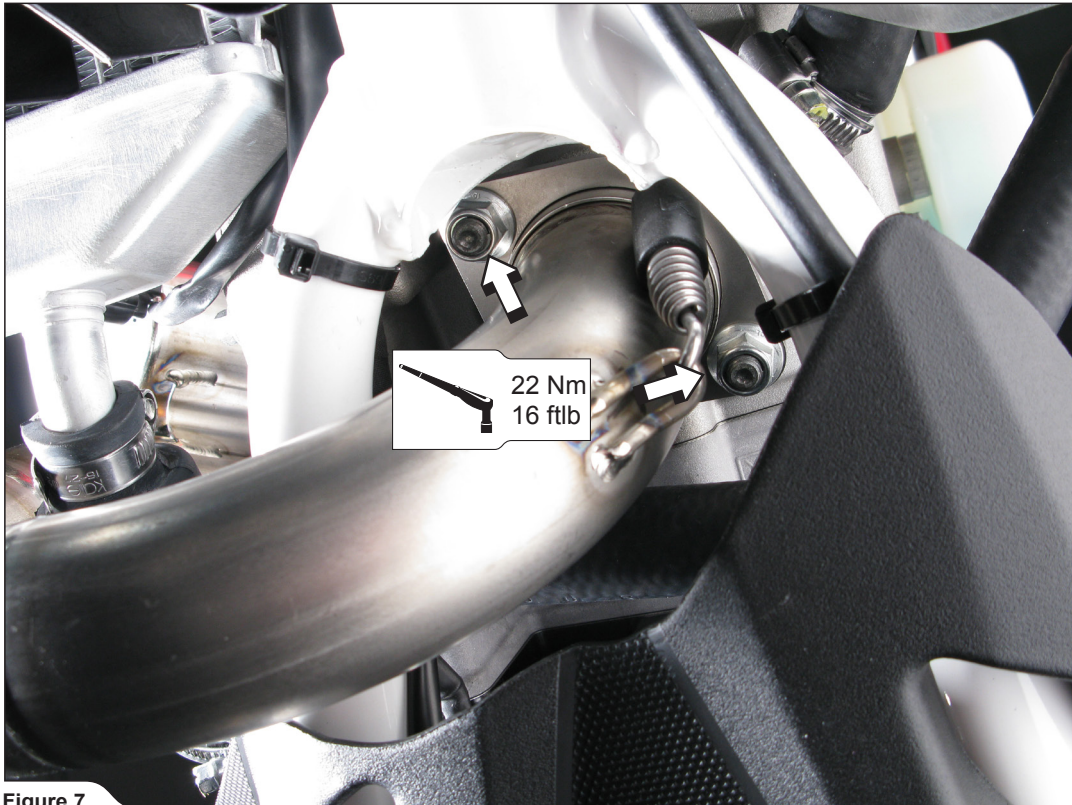

Figure 7
3. Insert the header tube into the sleeve, attach the springs and tighten the nuts to a specified torque (**Figure 7**).